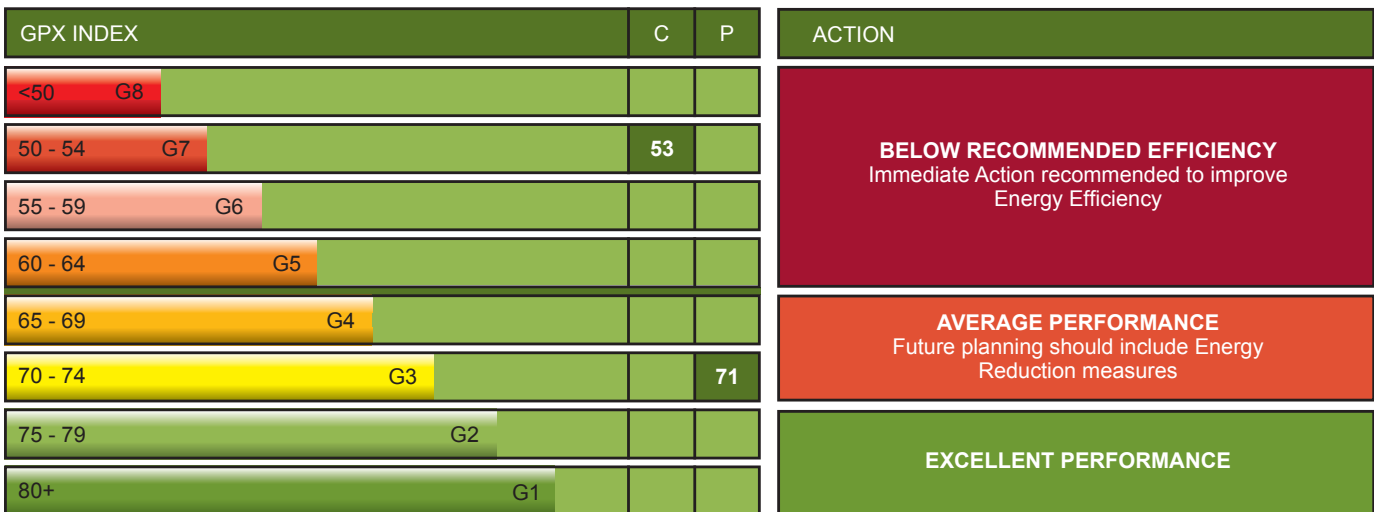

Figure 3 | Green Pump Index
In the Fig 3, the GPX index has been divided into grades of energy efficiency. The figure also shows the Current (C) and also the Potential (P) GPX rating. The potential rating can be calculated based on all possible ways that energy performance could be improved, including coating, refurbishment, replacement, pipework upgrades or the use of variable speed.
Fig 3 also offers a means of separating short-term from longer-term investment. Where the GPX index is at the lower end of the scale, it is probable the improvements may be achieved with relatively low-cost improvements, such as a pump refurbishment. Whereas, long-term considerations such as upgrading pipework, may be a practical investment in the medium to short term.